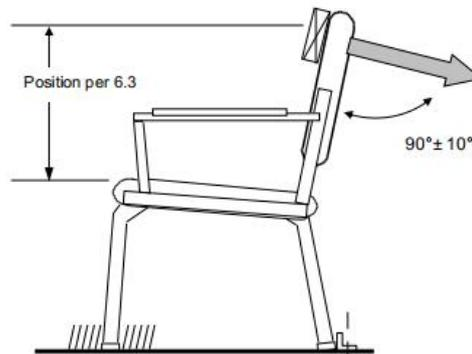

Figure 6d - Force Application Backrest Strength Test - Static - Type III
6.3.4 Attach a loading device (front push or back pull) to the horizontal center of the backrest as determined above. With the backrest at its back stop position, apply a force that is initially 90 degrees  $\pm$  10 degrees to the plane of the backrest (see Figure 6d). The force is not intended to be maintained at 90  $\pm$  10 degrees throughout the loading of the backrest. If applying the load with a cable and pulley system, the cable must initially be a minimum of 762 mm (30 in.) in length from the attachment point to the pulley. The angle of the backrest plane may be determined by the angle of the plane of the front of the CMD upright.